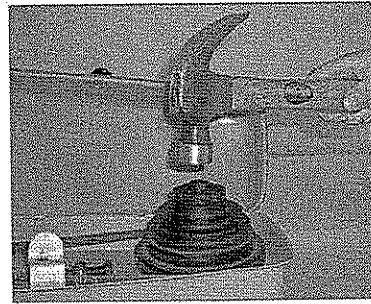

Fig. 22
d). When demounting, lightly knock the draw bar adown with a hammer to remove the chuck, or milling cutter. At the same time, be careful to catch the chuck or milling cutter, or let it fall so it isn't damaged (as shown in Fig. 22).